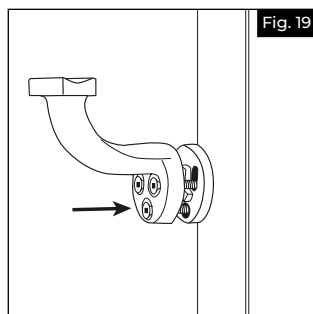

Fig. 19
- b. Once in place, secure the bracket to the post by driving the screw through the holes in the bracket and slots in the spacer (Fig.19).